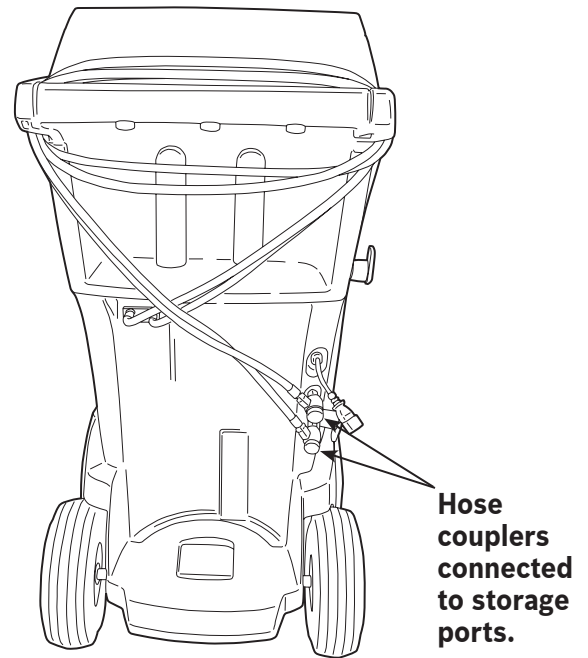

Figure 13
2. Loop the service hoses around the handle twice and attach them to the storage ports. See Figure 13.